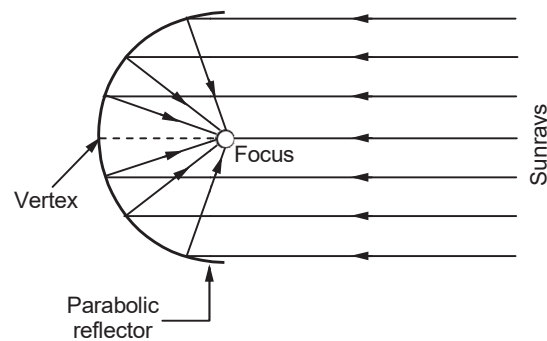

Fig. 2.8.1 Parabolic trough collector
- Fig. 2.8.1 shows the principle of the parabolic trough collector which is often used in focusing collectors.